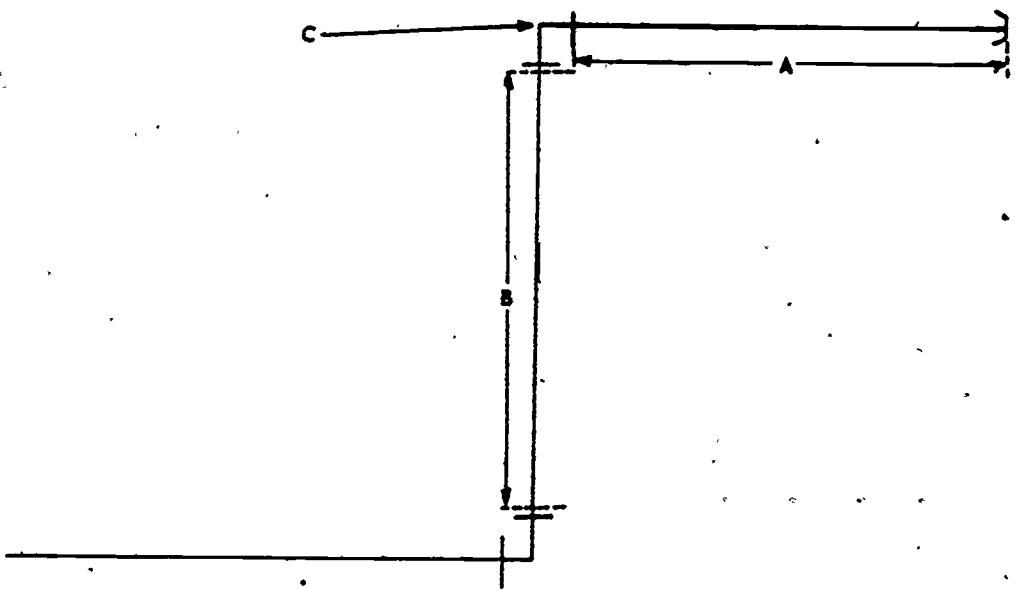

Figure 7. Pipe Insulation
- 1. List the materials needed to insulate the pipe illustrated in figure 7.